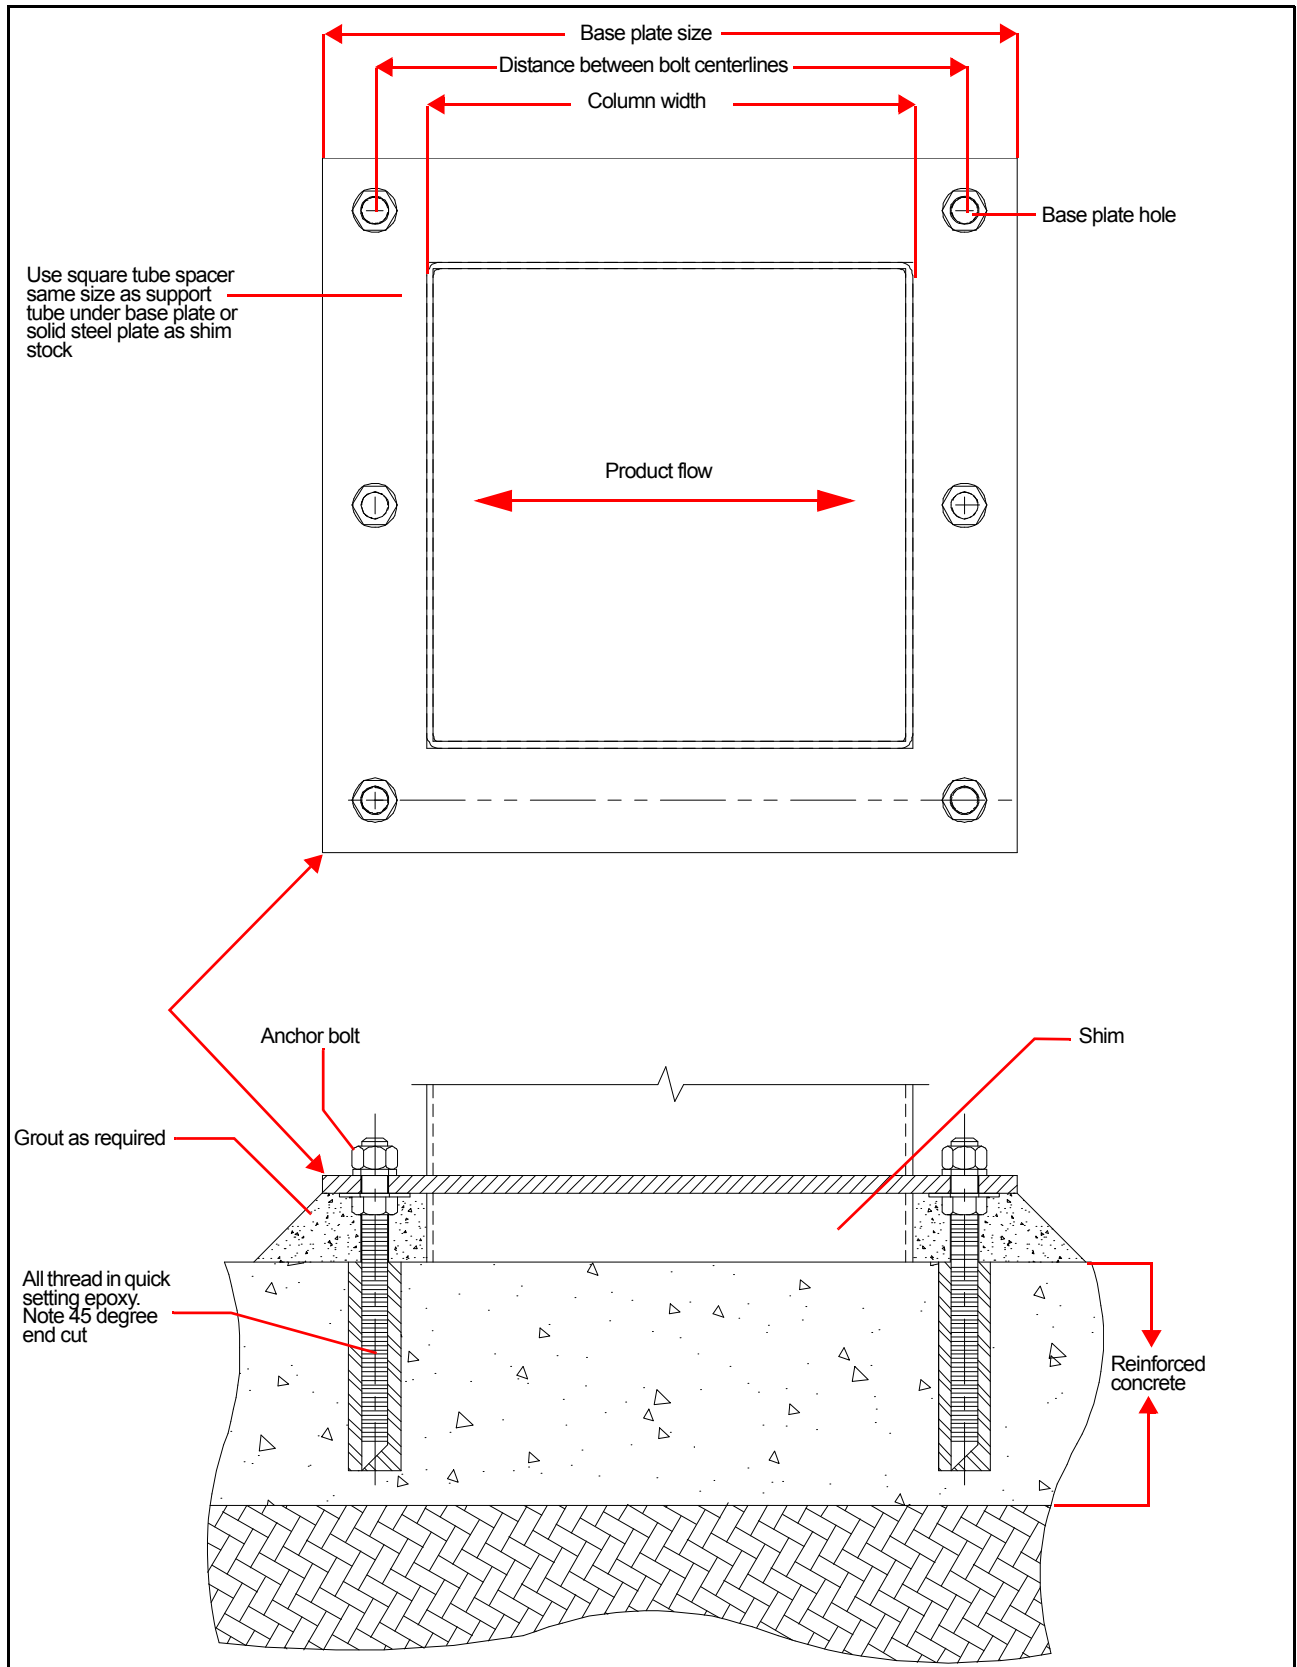
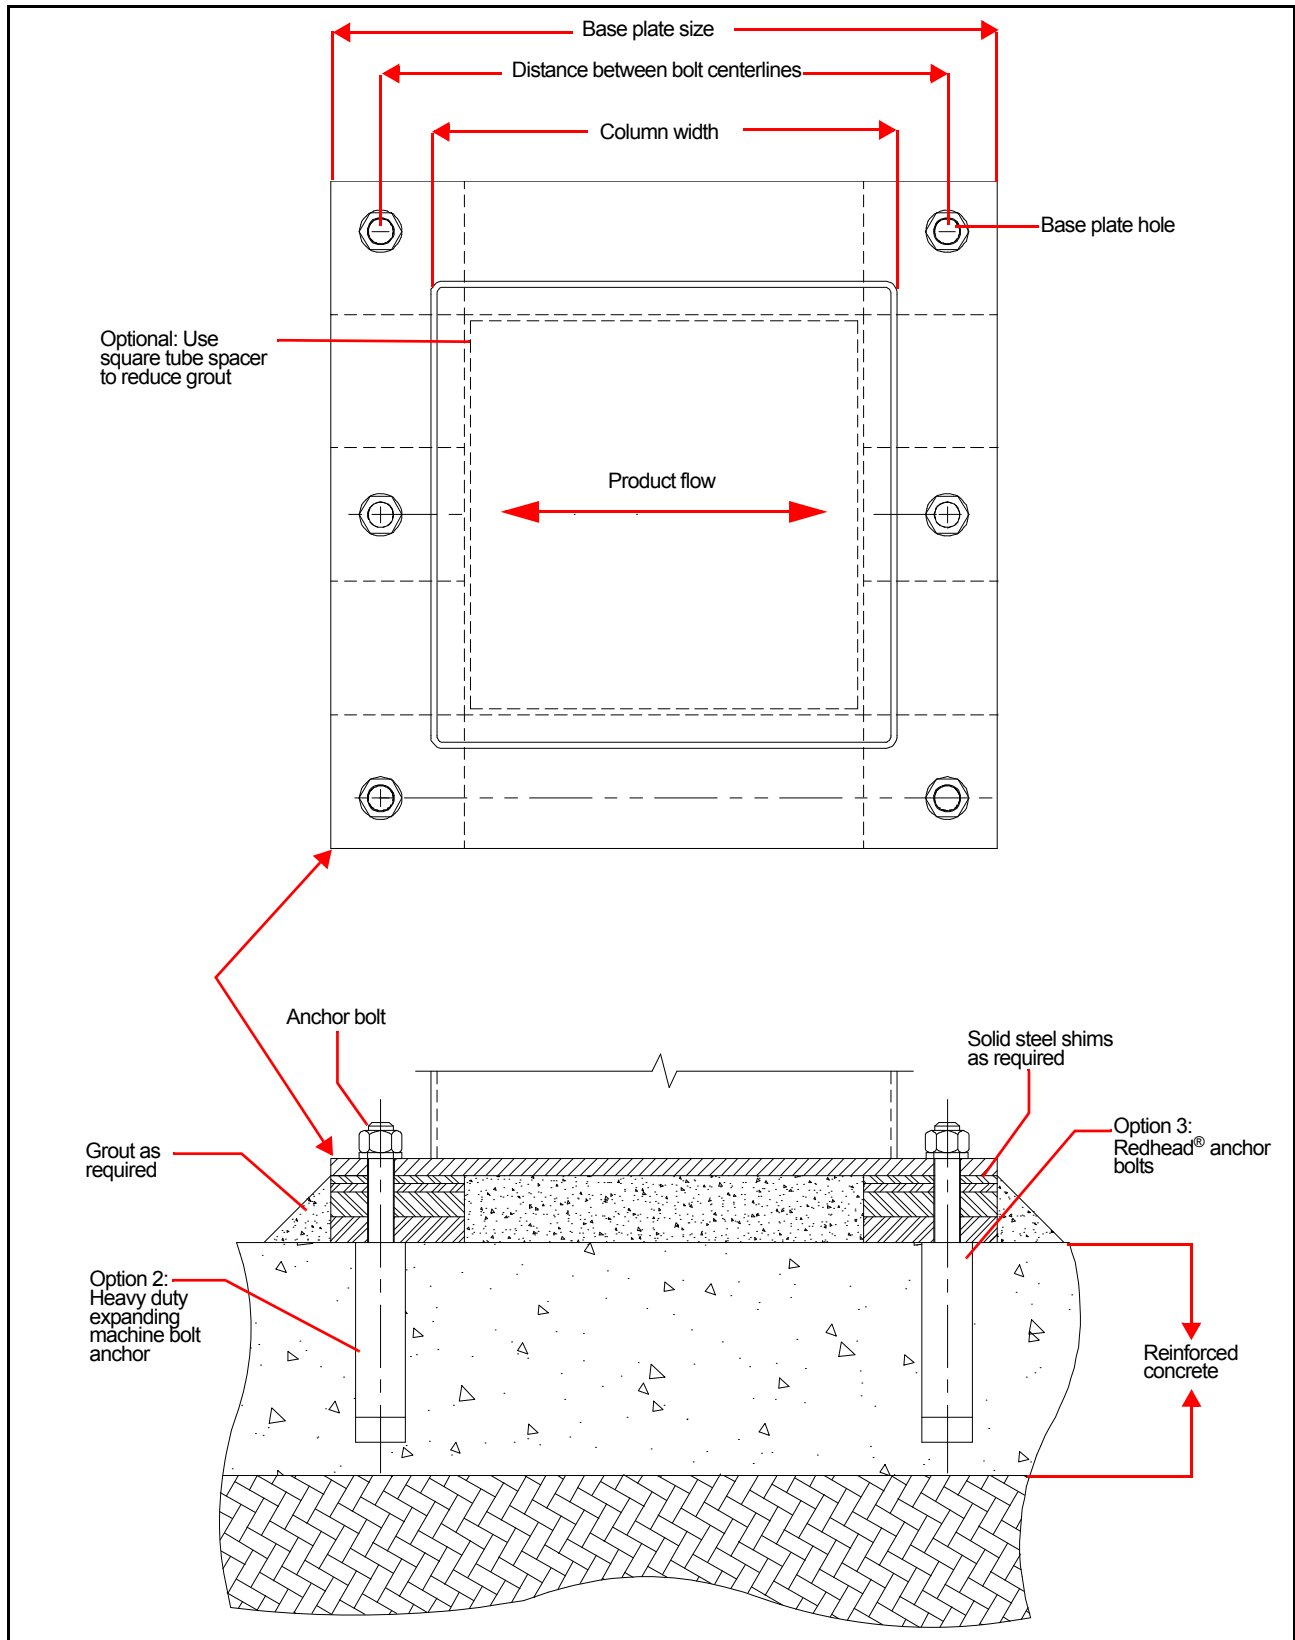

Figure 3-1 Floor Installation for Columns—Option 1
Figure 3-2 Floor Installation for Columns—Options 2 and 3
Typically Key Technology provides the column or pedestal supports. Either type of support structure may be used to support the shaker. When building your own support structures, size the mounts so the first natural frequency of any member is at least two times the shaker's design speed. Contact Key Technology for more information. For support mounting guidelines refer to Figure 3-1, Figure 3-2, and Table 3-B.
* 14 (356) columns require an extra bolt in the middle on each side (Figure 3-1 and Figure 3-2)
- Make sure the floor plates are properly installed in accordance with Figure 3-1, Figure 3-2, and Table 3-B.